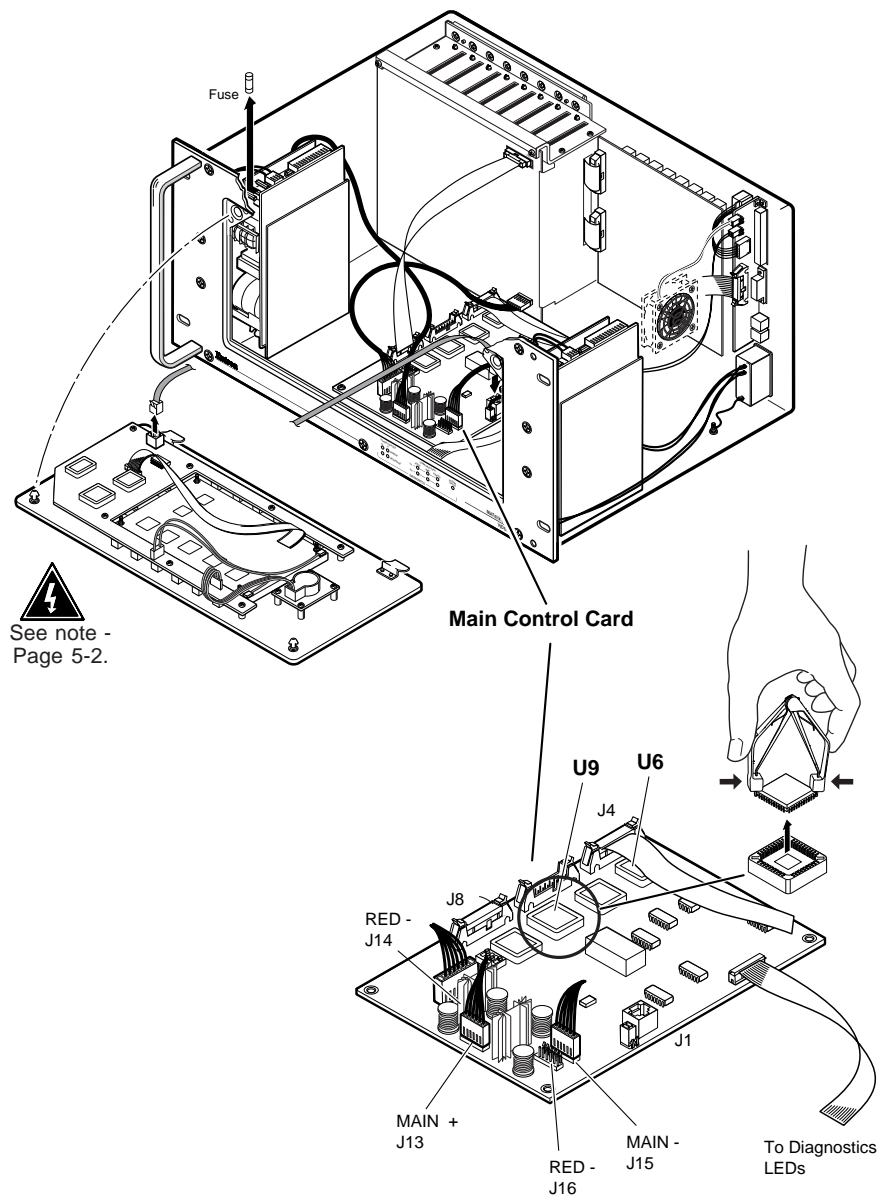

Figure 5-3.A Updating the Software IC on the Main Control Card
3. Use the PLCC IC puller (Figure 5-3.A) to remove the existing Software IC. Squeeze the tool to align the hooks with the slots provided in opposite corners of IC socket U9 or U6. Insert the hooks, squeeze gently and pull the IC straight out of the socket. Set the IC aside.
2. Remove the Access Panel on BME #0 (Page 5-2), locate the Main Control card (see Figure 5-3.A).